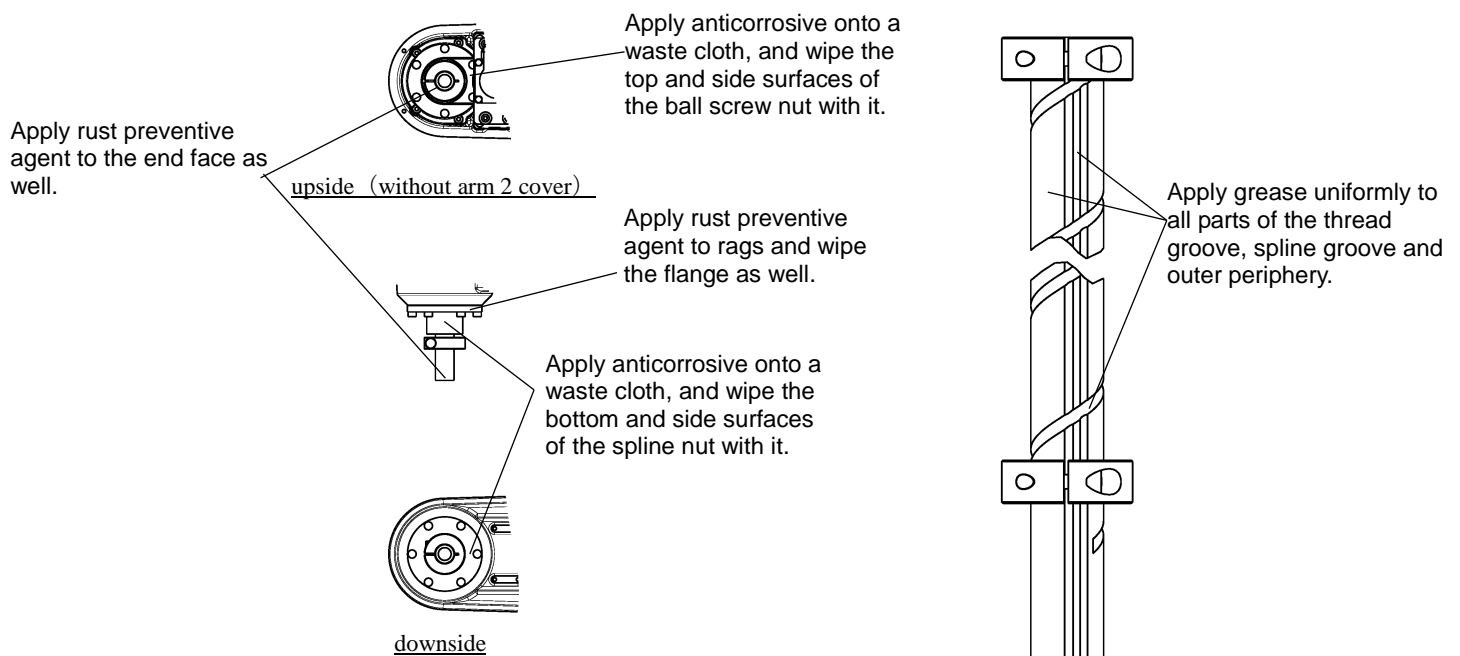

Fig. 2.39 Applying anticorrosive and grease to ball screw spline unit (KHL-300, KHL-400)
- 7) Directly apply the grease by brush to the shaft area sticking up from the cover. Apply the grease to such an extent that the shaft groove can be filled. For the portions (two positions) to be coated with grease, see Figure 2.39.